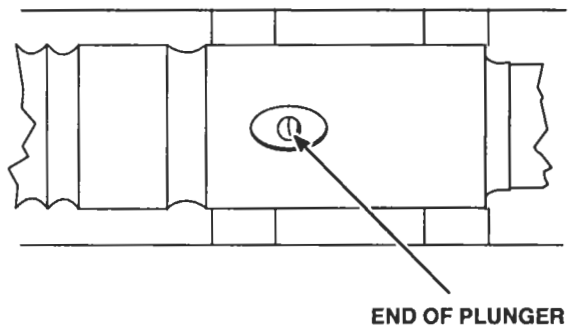

Figure 16. End of Plunger Shown in Port
7. Hold the plunger against the micrometer and rotate the carriage adjustment screw until the plunger almost closes the port (Figure 16.)